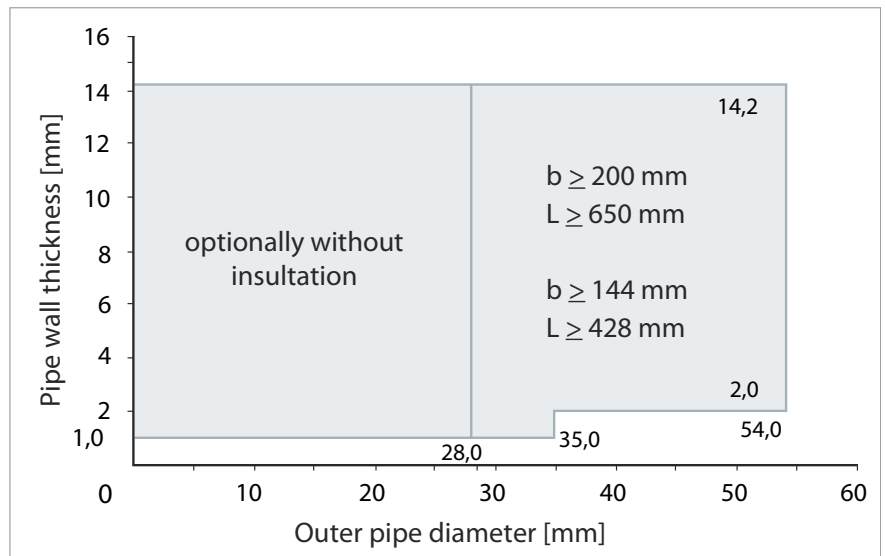

Figure 4: Lengths of insulation for non-combustible pipes
- Pipes made of copper, steel, stainless steel and cast iron up to an outer diameter of 54 mm are approved and the nominal pipe wall thicknesses Abb. 4 must be complied with.
- Local insulation (insulation only in the insulation area), interrupted in the main insulation (LI) or run through the main insulation (LS), must be made of mineral wool with a minimum thickness of 90 kg/m³. The insulation thickness must be 30 mm.
- Section insulation (insulation over the entire length of the pipeline), interrupted in the main insulation (CI) or run through the main insulation (CS), must be made of mineral wool with a minimum thickness of 90 kg/m³. The insulation thickness must be at least 30 mm.